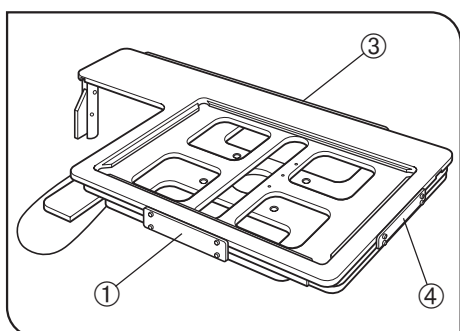

Fig. 5
1. Using the Allen wrench (3 mm), remove the transport clamping plate ① from the rear edge of the stage. (Fig. 5) The removed screws should be used to clamp the stage when attaching it.
2. While holding the stage so that the coarse adjustment grip and X-axis/Y-axis knobs are on the right, gently place the stage on the stage holder ②. Using the Allen screwdriver or Allen wrench, tighten the four screws temporarily.
3. Remove the transport clamping plate(s) from the front ③ and side (MX-SIC1412R2 only) ④ of the stage, move it to the rearmost position and, after confirming that the stage and arm do not interfere with each other, tighten the four screws firmly. (Fig. 5)
#### Caution Before Transporting the Stage (Fig. 5)